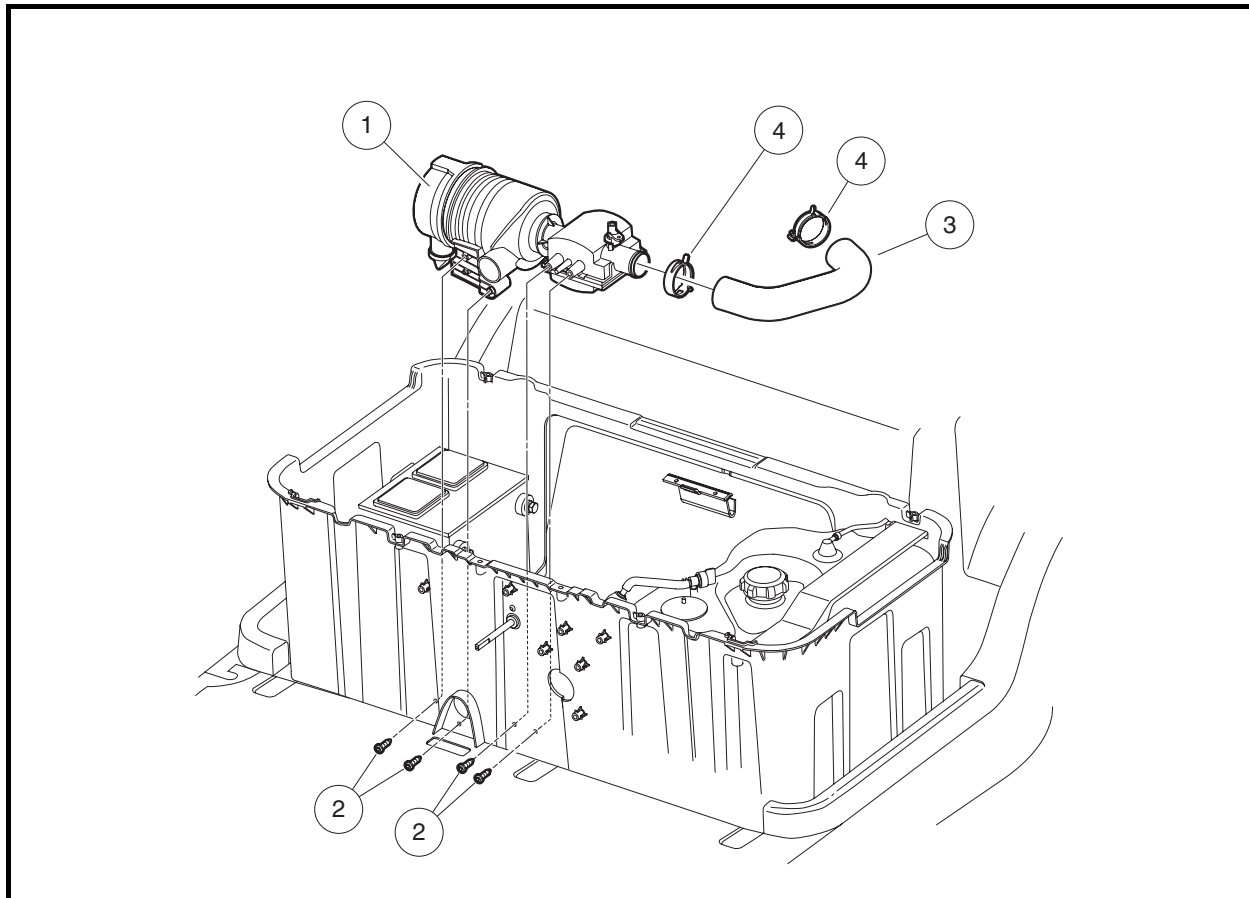

Figure 14-6 Air Intake and Choke Assembly
4. Hose (3) may be removed by removing the clamps (4) at the choke and the carburetor (**Figure 14-6, Page 14-10**)
5. The air intake assembly (1) is secured to the fuel bucket with four screws (2). Access to the screws requires that the kick plate be removed. **See Kick Plate and Choke Button, Section 4, Page 4-7.**
1. Position air intake assembly (1) inside the fuel bucket (**Figure 14-6, Page 14-10**). Secure intake assembly with four screws (2). Tighten screws to 2.7 ft-lb (3.5 N-m).
2. Install hose (3) and secure one end to the air intake assembly (1) and one end to the carburetor. Install clamps (4) to secure the hose in place.